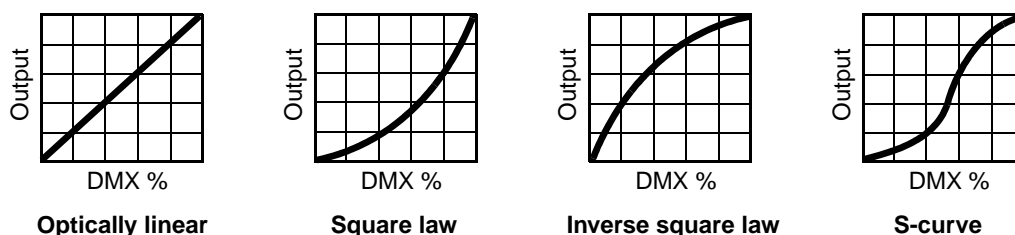

Figure 3: Dimming curve options
**DIMMER CURVE** provides four dimming options (see Figure 3):